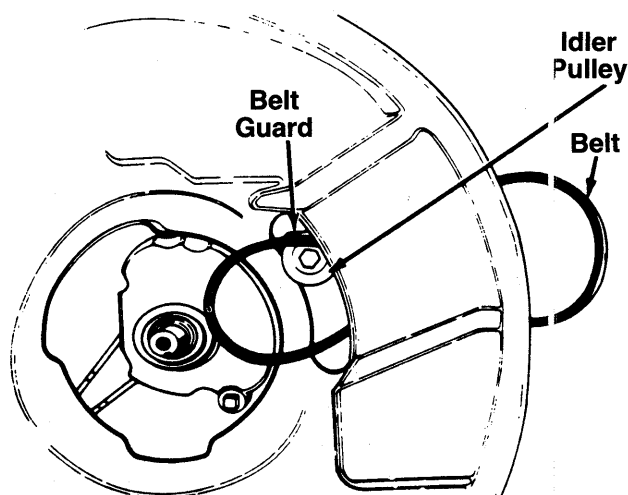

FIGURE 20.
- Remove the belt from between the idler pulley and the belt guard on the idler pulley bracket. See figure 20.
- Push the idler pulley up out of the way as shown in figure 20.
- Slide the belt in from the rear of the deck, and place it around the transmission pulley. See figure 20.